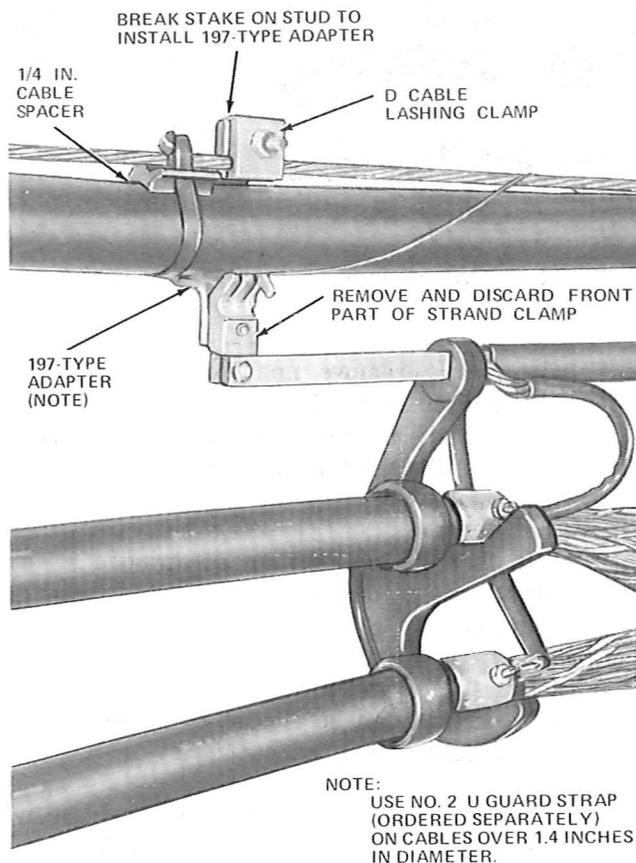

Fig. 12—197A Adapter Installed
4.02 Where more than one cable is lashed to a strand, the 197A adapter must be used as shown in Fig. 12. Assemble the 197A adapter on the support bar of the 18-type cable closure before centering the assembly over sheath opening.